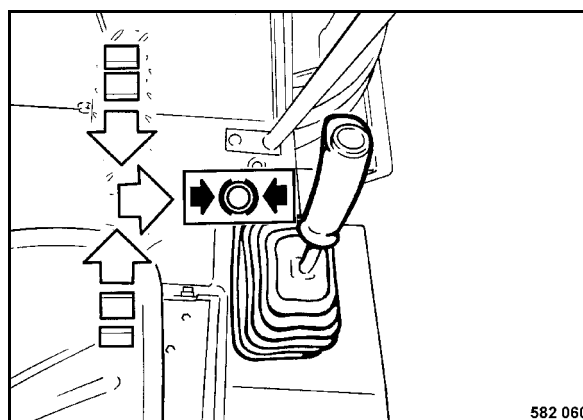

Fig. 26
- Check, whether the travel lever (Fig. 26) is engaged in brake position.